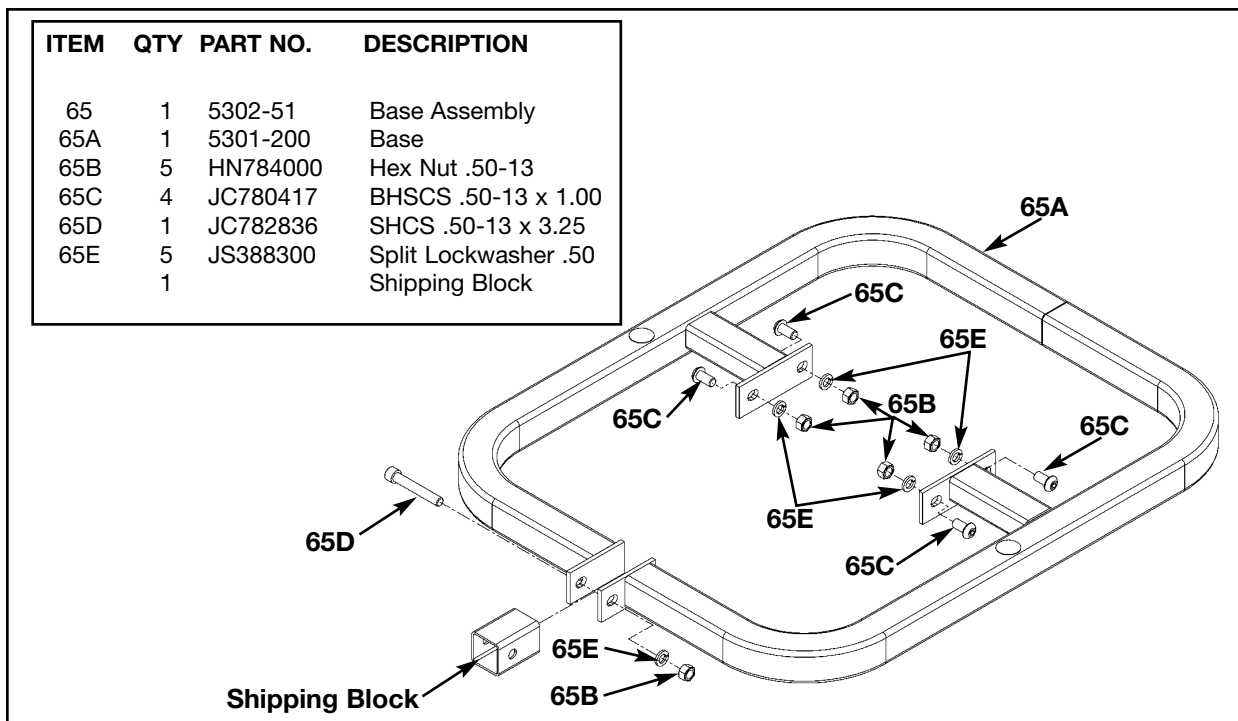

Figure 8
4. Attach column to the appropriate configuration (see steps 4A - 4F, Figures 8 and 9).
B. Remove the hardware from the base (#65A) as shown in Figure 8.